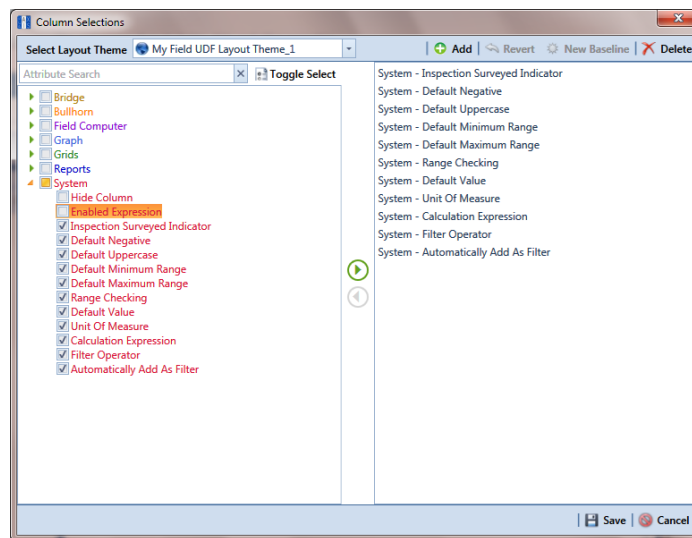

Figure 2-22. Column Selections
- 8 Choose which fields to include in the layout theme. Select a field in the left pane and then click the top arrow button  to move the field to the right pane. Repeat this step as needed (Figure 2-22, page 50).
- a Click  **Customize** to open the *Column Selections* dialog box (Figure 2-22, page 50).